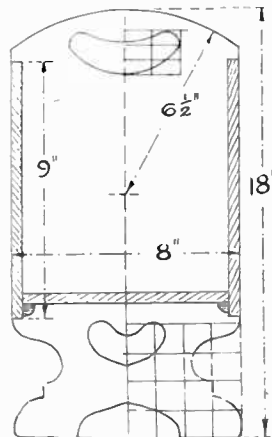
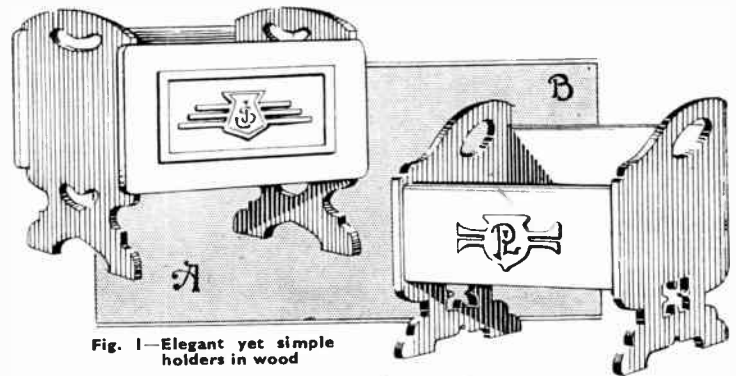

Fig. 2 — End view with dimensions
Fig. 1—Elegant yet simple holders in wood
The illustrations in Fig. 1 give a good idea of the stands, and we will first describe that shown as (A). The two ends are of $\frac{3}{4}$ in. wood, and their outline can be drawn from the detail, Fig. 2. A plain oblong of wood is first cut measuring 18ins. by 8ins., and a centre line should first be drawn down its centre as shown.